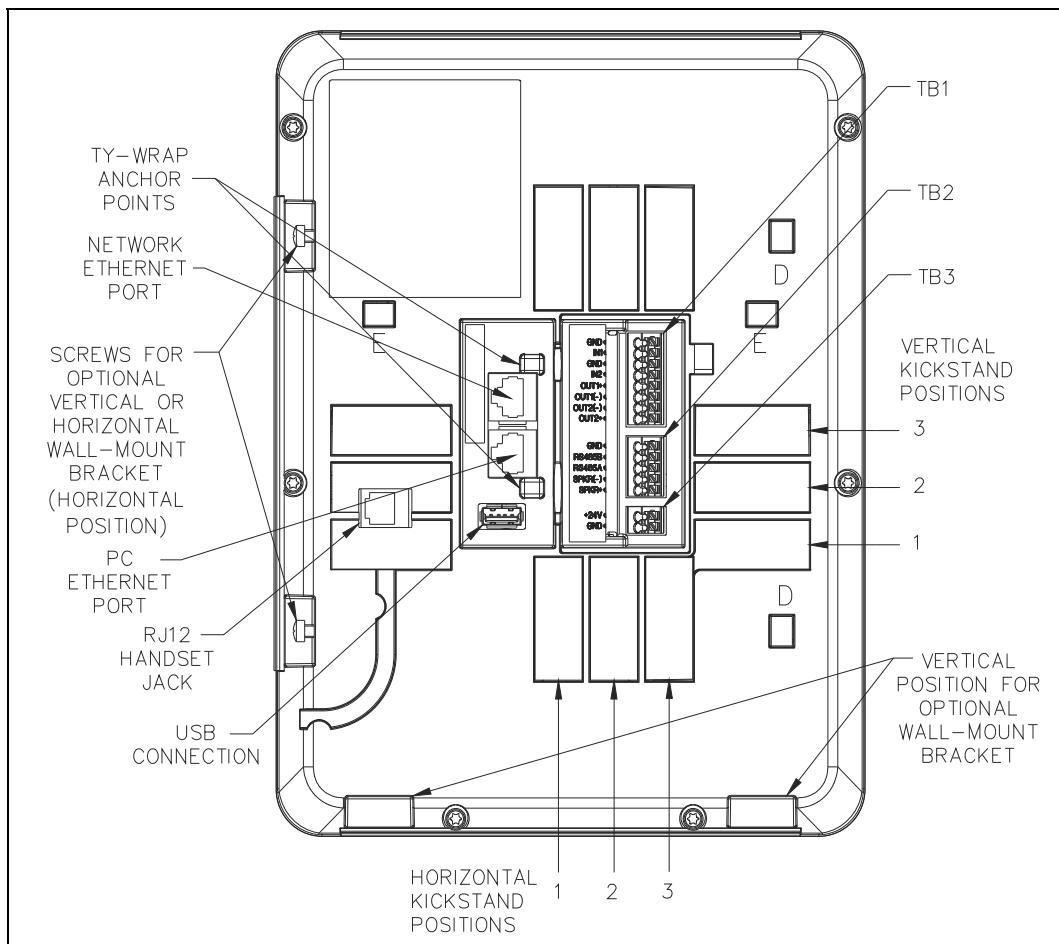

Figure 4. HUBBCOM APLite—Rear View
The kickstand provides four positions in both orientations to suit the situation where it is used (see Table 1 and Figure 4).
2. Insert one side of the kickstand, with the flange properly oriented, into the desired position in the rear cutout (see Figure 4).
- Remove the two #8 × ½-inch mounting bracket screws from the bottom of the rear panel and set aside (see Figure 4).
- With the proper orientation for the unit's configuration, angle the unit to hook it onto the top flange brackets (D-D or E-E, see Figure 4), then rotate and slide it downward until it rests on the mounting bracket.
7. Remove the two #8 × ½-inch mounting bracket screws from the bottom of the rear panel and set aside (see Figure 4).
9. With the proper orientation for the unit's configuration, angle the unit to hook it onto the top flange brackets (D-D or E-E, see Figure 4), then rotate and slide it downward until it rests on the mounting bracket.
HUBBCOM APLites have dual Ethernet ports. Use the RJ45 jack furthest from the USB port to connect to the Ethernet network. The RJ45 jack closest to the USB port can be used to connect a PC (see Figure 4).
2. (Optional) Plug an Ethernet cable from a PC into the remaining RJ45 jack(see Figure 4).